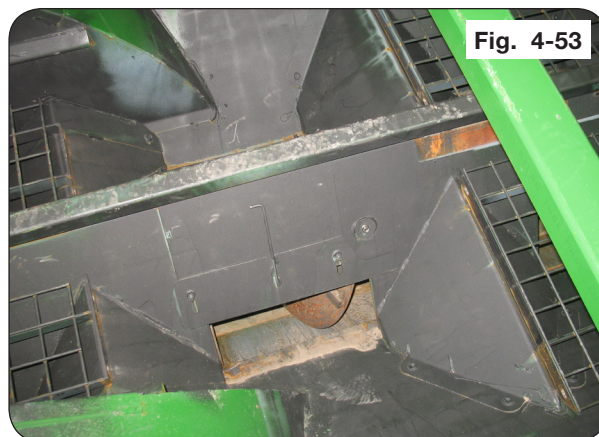

Fig. 4-53
8. Remove the flange screws in both middle grates inside the cart. Remove the grates. (Fig. 4-53)